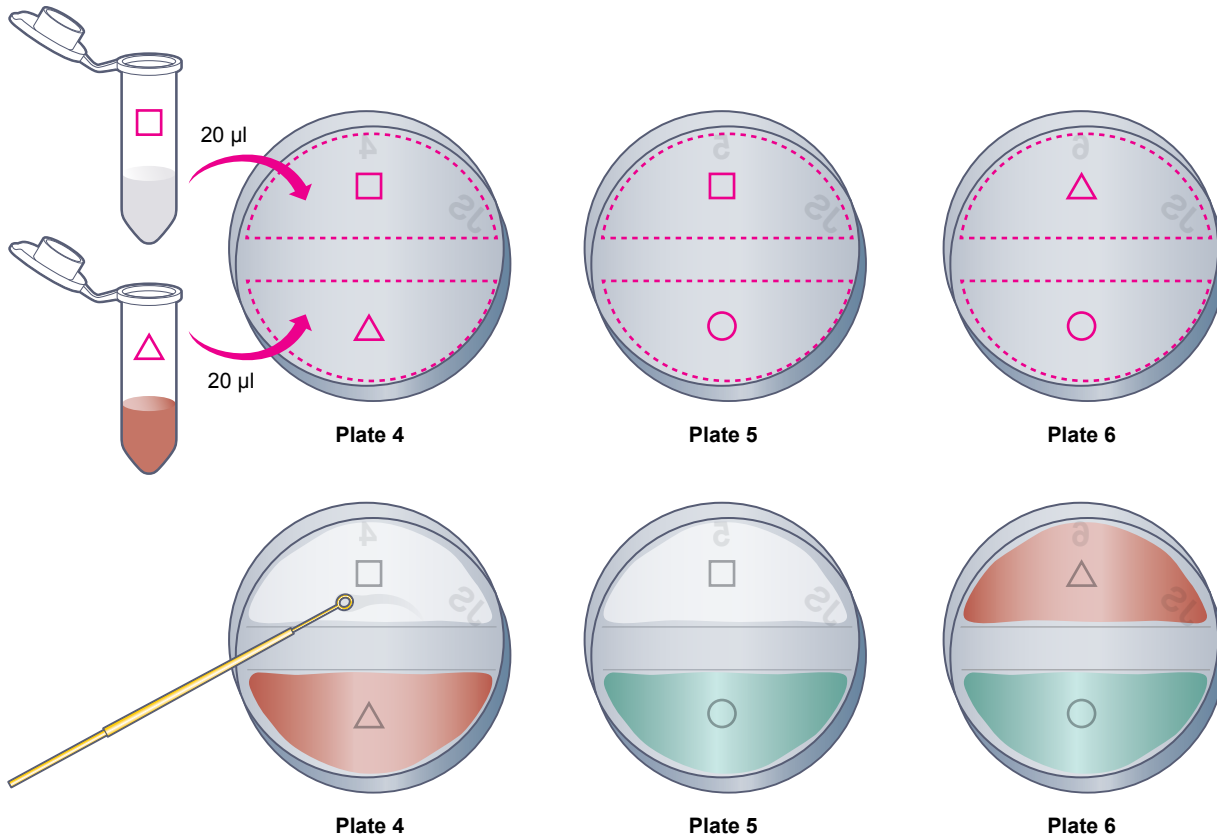

Fig. 6. Inoculation patterns for plates 4–6.
2. Inoculate the plates with *Vibrio* strains. For each plate (see Figure 6):